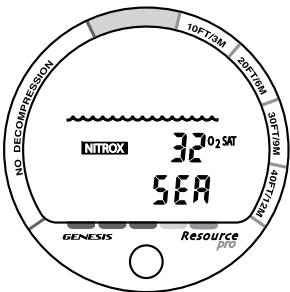

Fig. 36 - Surface ALT
- then, press/release the button while viewing the Surface ALT screen (Fig. 36).